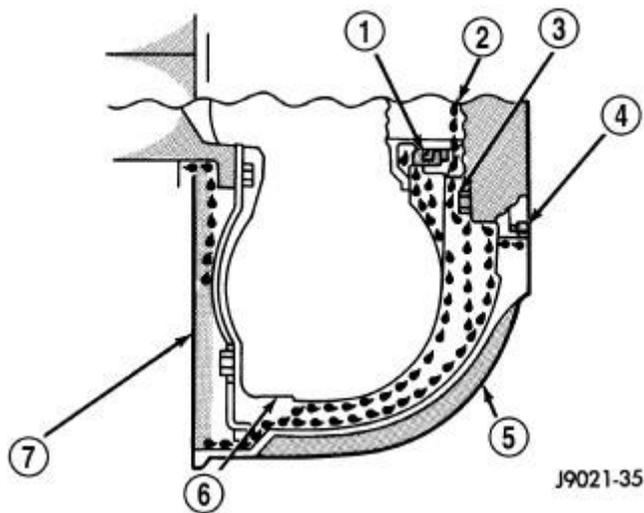

Fig. 29: Converter Housing Leak Paths
Fluid leakage at or around the torque converter area may originate from an engine oil leak (7). Refer to **Fig. 29**. The area should be examined closely. Factory fill fluid is red and, therefore, can be distinguished from engine oil.
Pump seal (1) leaks tend to move along the drive hub and onto the rear of the converter. Refer to **Fig. 29**. Pump o-ring or pump body leaks follow the same path as a seal leak. Pump attaching bolt (3) leaks are generally deposited on the inside of the converter housing (5) and not on the converter itself. Pump seal (1) or gasket (4) leaks usually travel down the inside of the converter housing.